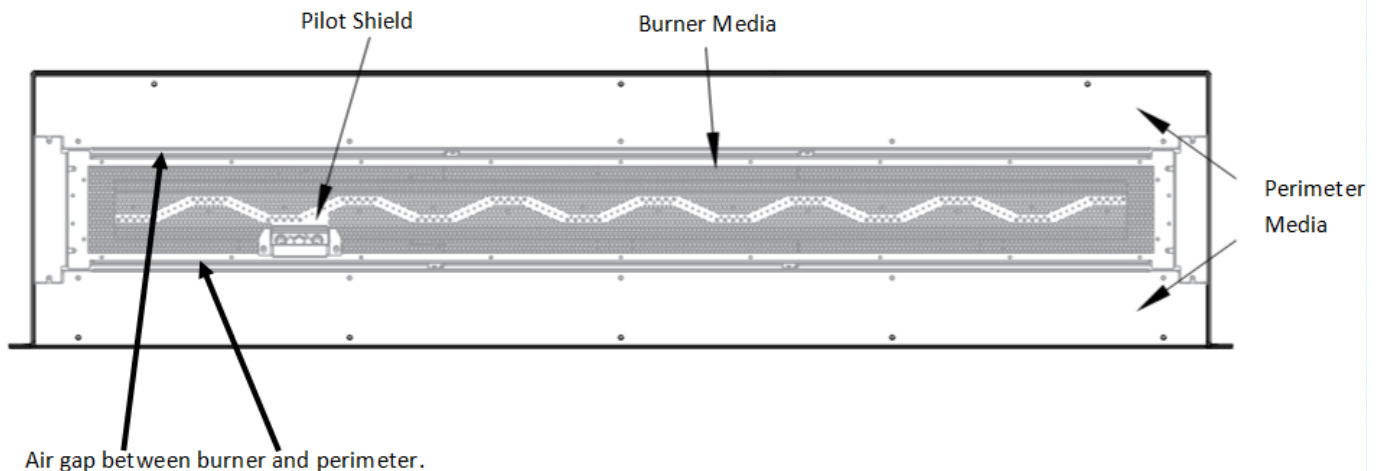

Figure 9.3 - Media Installation
Figure 9.3 shows an arrow on the left that is pointing the pilot shield around the pilot. Do not place media on top of or inside the media guard to cover or block the pilot. The remaining arrows point to the burner and perimeter locations where media is to be placed. Do not cover the small air gap between the burner and perimeter with media.
1. Install an even layer of your chosen media across the whole burner. See Figure 9.3.
1. Install an even layer of your chosen media across the front and rear perimeter. See Figure 9.3.